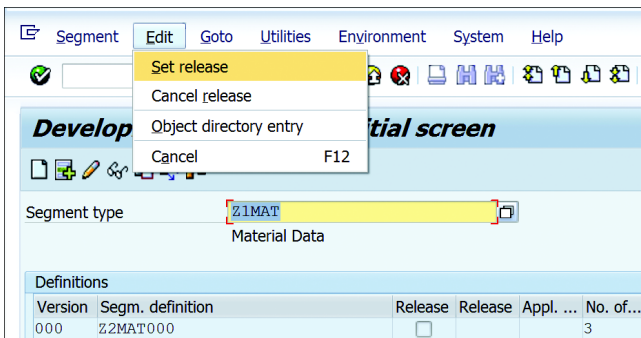

Figure 19.36 Releasing Segment
4. Once the segment is saved, release the segment by following the menu path EDIT • SET RELEASE from the initial screen, as shown in Figure 19.36.